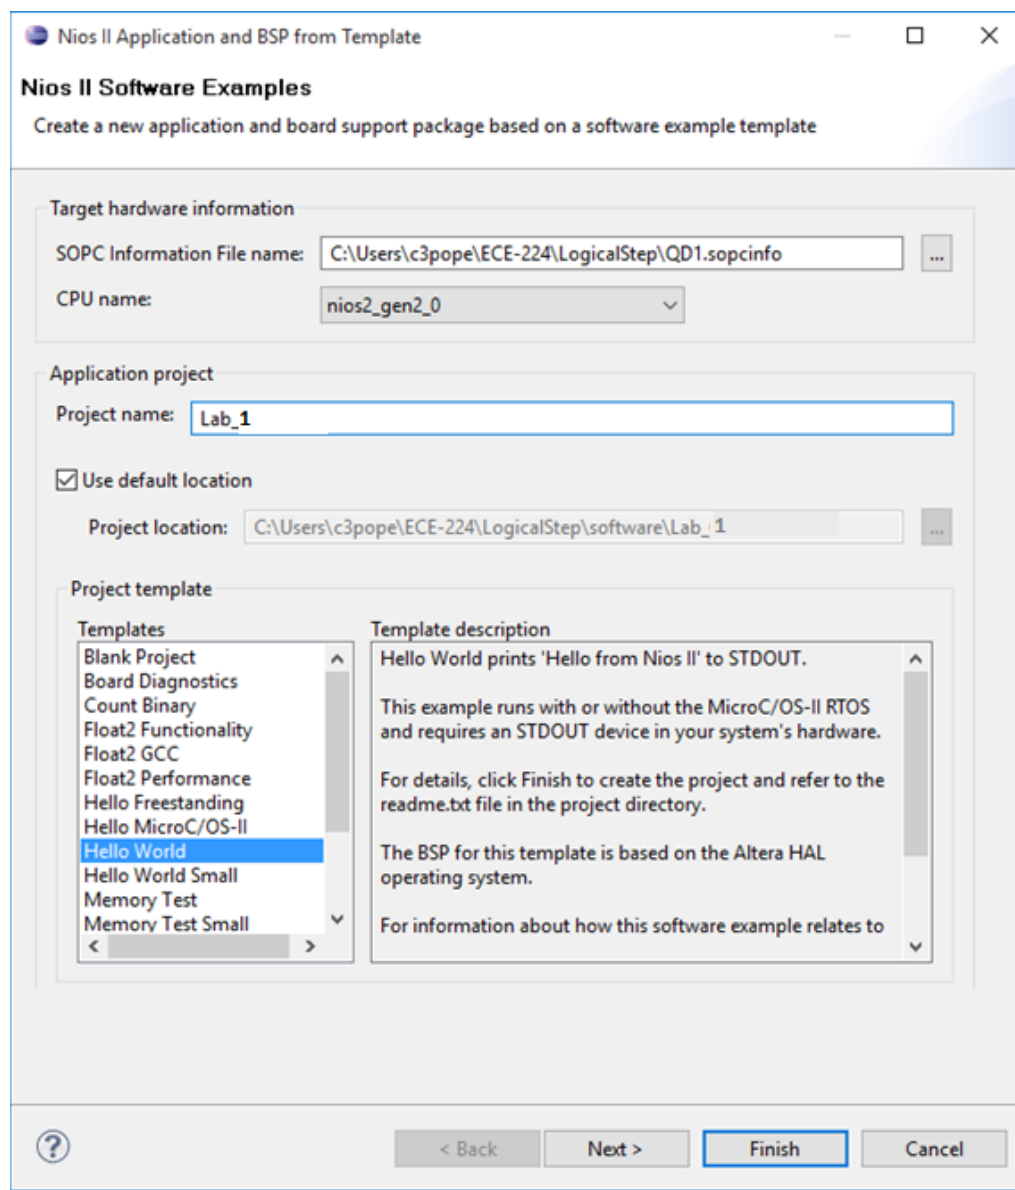

Figure 42: Configuring a New Application from a Template for Lab_1
5. Select the Hello World project from the Templates list as shown in Figure 42.